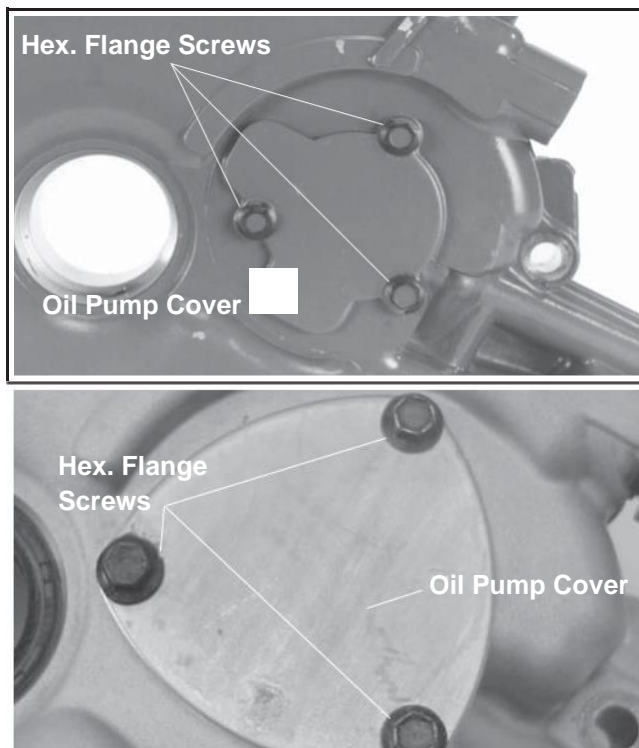

Figure 11-24. Installing Oil Pump Cover.
3. Install the oil pump cover (machined side towards O-Ring). Secure with three hex. flange screws. See Figure 11-24.